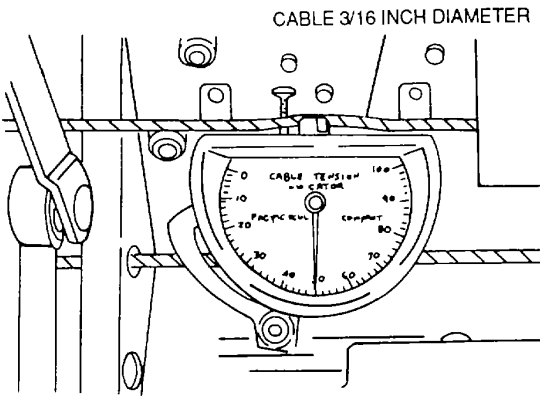

Figure 7-5. Using a Tensiometer
*b. Use.* The following steps outline the general procedures for measuring cable tension with a tensiometer (see figure 7-5):
(1) With the trigger lowered, place the cable to be tested under the two anvils.
(2) Close the trigger. Movement of the trigger pushes up the riser, which pushes the cable at right angles to the clamping points under the anvils.
(3) Read the force indicated on the dial.